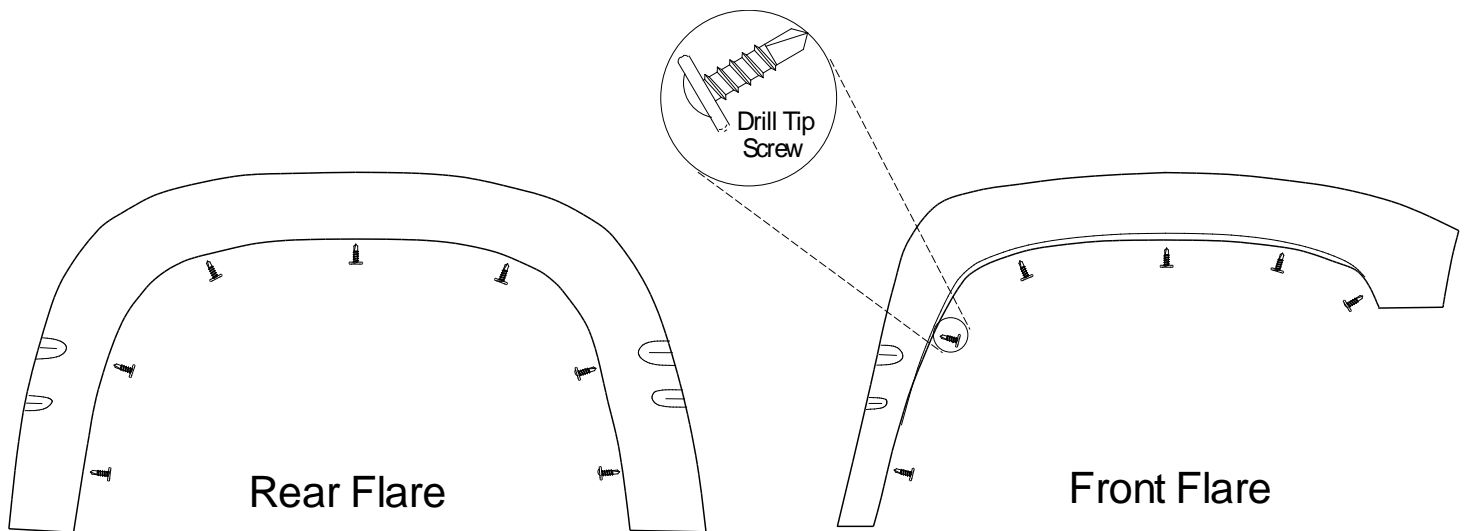

FIGURE 3
- (A) Drill all flares with a 3/16" drill bit using the indents formed into the flare as a guide.
- (B) Applying moderate pressure to the outside surface of the flares, fasten to the sheet metal with drill tip screws, using the holes in the flares as a guide. See **FIGURE 3**.